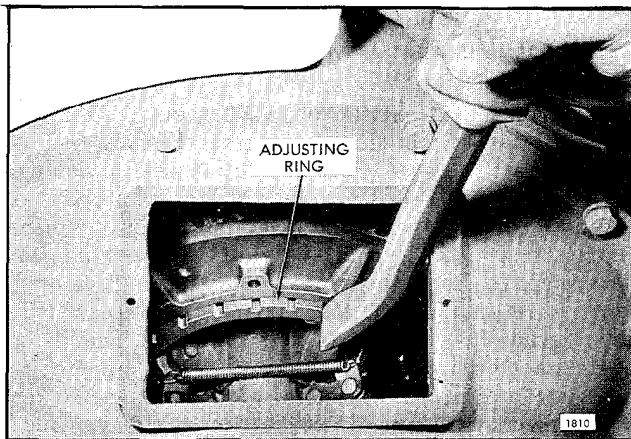
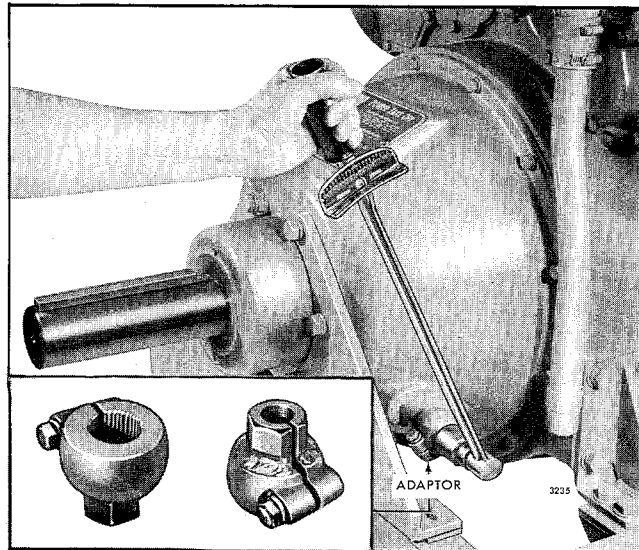

Fig. 11 - Power Take-Off Showing Typical 8 and 11-1/2 Inch Diameter Clutch Adjustment Ring
Fig. 14 - Checking Power Take-Off Clutch Adjustment with Torque Wrench and Adaptor
4. On the 8" and 11-1/2" diameter clutches, remove the clutch adjusting ring spring lock screw and lock from the inner clutch pressure plate and adjusting ring. Then, while holding the clutch drive shaft to prevent the clutch from turning, turn the clutch adjusting ring counterclockwise as shown in Fig. 11 and tighten the clutch until the desired pressure on the outer end of the hand lever, or at the clutch release shaft (Fig. 14), is obtained as shown in Table 1.
outer end of the hand lever, or at the clutch release shaft (Fig. 14), is obtained as shown in Table 1.
A suitable spring scale may be used to check the pounds pressure required to engage the clutch. However, a more accurate method of checking the clutch adjustment is with a torque wrench as shown in Fig. 14.
To fabricate an adaptor, saw the serrated end off of a clutch hand lever and weld a 1-1/8" nut (across the hex) on it as shown in Fig. 14. Then saw a slot through the nut.